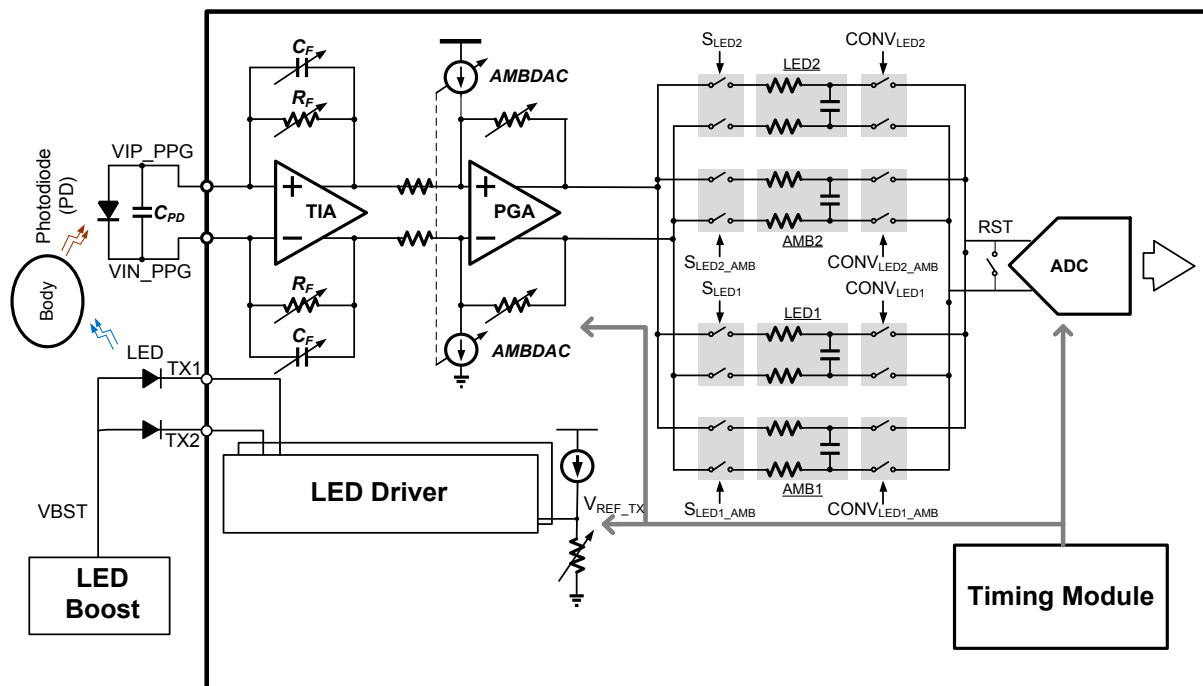

Figure 6-1. PPG Channel Analog Part Block Diagram
Figure 6-1 illustrates the system block diagram for PPG acquisition.¹ The PPG channel is separated into two parts: Transmitter (TX) and Receiver (RX). The TX part consist of LED driver. The light emitted by LED is penetrated /reflected by the skin, and received by photodiode of the RX. The RX consists of a trans-impedance amplifier (TIA), a programmable gain amplifier (PGA), an ambient cancellation digital-to-analog converter (AMBDAC), and a 24-bit incremental ADC. It amplifies and digitizes the received current. The blocks are described in more detail in the following sections.